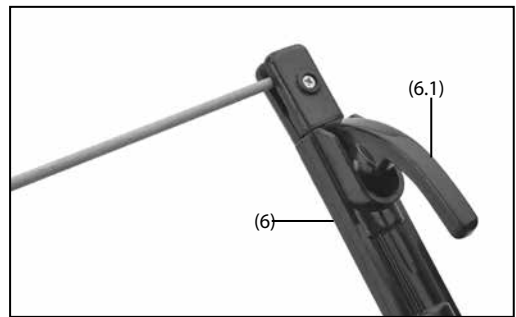

FIG. 4
8.2 MMA/ARC MACHINE OPERATION – FIG.4
- Insert the electrode suitable for the application into the electrode holder (6) while pressing lever (6.1).